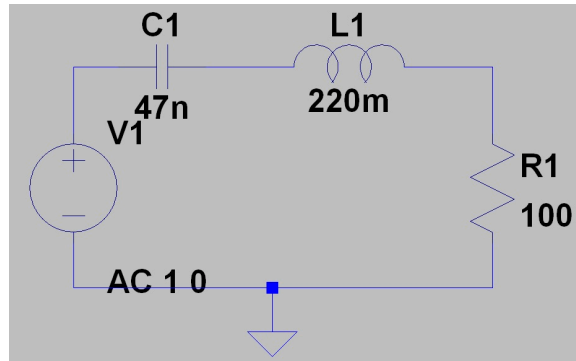

Figure 1: Series RLC circuit.
Consider the LTspice model of a series RLC circuit shown in Figure 1. Notice that it contains an independent voltage source, set to give an AC signal with an amplitude of 1 and a phase of 0: AC 1 0.
- Recreate the circuit shown in Figure 1 in LTspice and run an AC analysis on it. Start with 3 points per decade and choose your start and end frequency to be roughly three decades either side of your expected resonant frequency.
- Calculate the Q factor for the circuit shown in Figure 1. Compare this value to a measured value based on the transfer function you simulated in the previous section. Does your simulated value agree with your calculations?